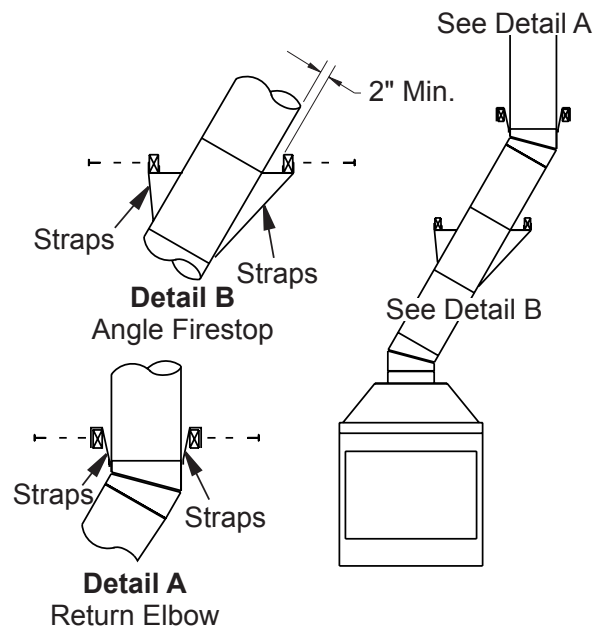

Figure 10 - Ceiling Support Pipe 12S-12DM
2. Chimney weight above offset rests on return elbow. Straps must be securely nailed to rafters or joists (see Figure 10, details A and B).